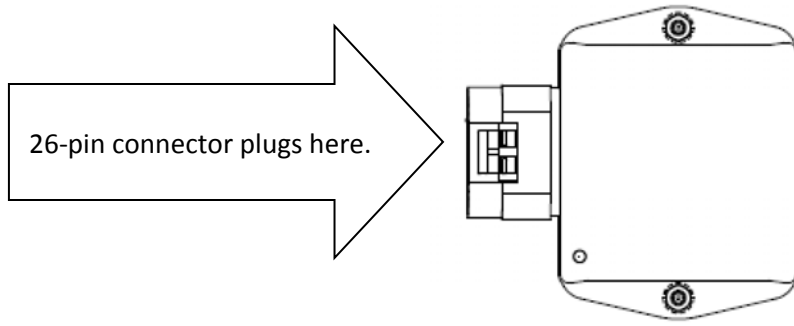

Figure 4 – BASE auto-switching unit
- Disconnect the BASE auto-switching device by unplugging the 26-pin connector (see Figure 4).